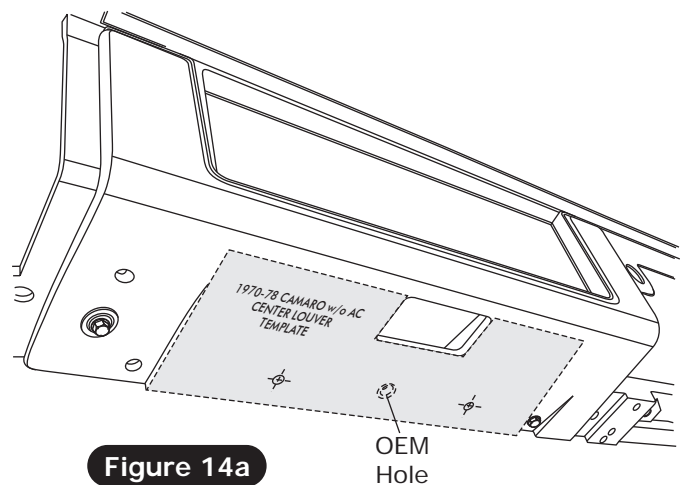

Figure 14a
2. Once template is aligned correctly and taped into place, mark mounting holes on dash. Once holes are marked in the correct location, remove template and drill (2) 3/16" holes in dash for the center louver bezel (See Figure 14a, below).